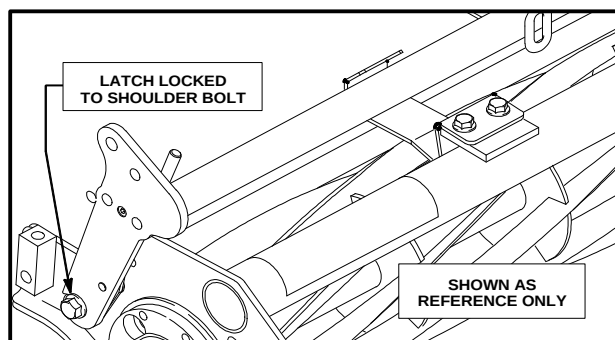

Figure 7
5. Pull the latch handle and pivot it to the rear (allow the bolt head to drop into the center hole) the latch will pivot forward and lock under the shoulder bolt (See Fig. 7). Repeat procedure on opposite side of the cutting head. Install the remaining cutting heads using the same procedure.